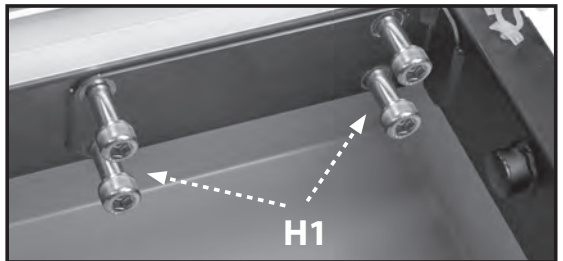

FIGURE 7
3. (See Figure 7) Secure the saw arm assembly to the main frame using the four M10 X 60 hex head screws (H1) from the inside of the main frame. Tighten using the supplied 8mm Allen wrench (H2).